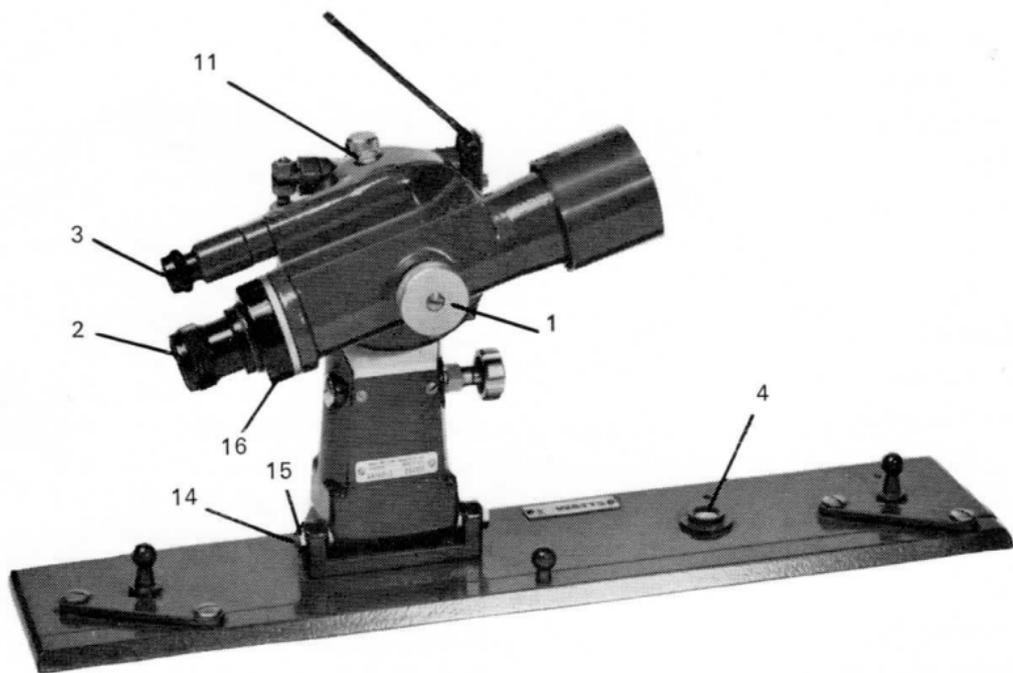
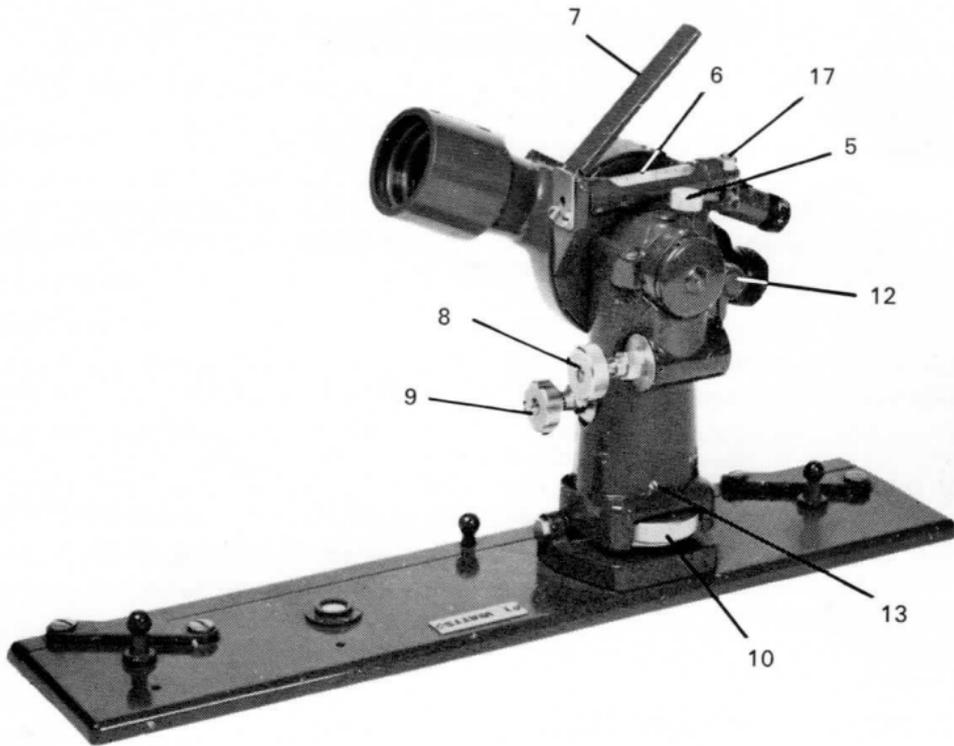
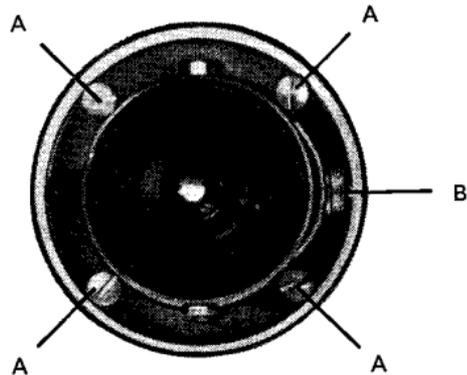

Figure 1 – THE ALIDADE
Figure 2 – THE ALIDADE
Figure 5 - GRATICULE ADJUSTMENTS
The various parts of the instrument are shown in Figures 1 and 2.
The other numbered items in Figures 1 and 2 are adjustments which are described in section 3.
Sight in the required direction and centre the cross bubble, using the pillar adjusting screw (10 Figure 2). Focus carefully by turning knob 1 (Figure 1) until there is no parallax between the image and the graticule, i.e. the image must remain stationary relative to the graticule when the head is moved from side to side. Clamp the telescope (5 Figure 2) and use the tangent screw (8 Figure 2) to bring the image of the object sighted on the intersection of the crosslines.
If vertical circle readings are required, first use the altitude bubble tangent screw (9 Figure 2) to centre the altitude bubble.
The angle scale is also marked for use when the telescope is reversed for backward sights, although in this condition it may be necessary to reflect light into the window (11 Figure 1) with a piece of white card to illuminate the scale.
Wear on the pillar adjusting screw threads can be taken up by adjustment of screw 13 Figure 2.
The pillar pivots on the two screws 14 Figure 1. If there is any shake in the pivots, loosen locknut 15 Figure 1 and adjust the screw; do not over-tighten. When the adjustment is satisfactory, tighten the locknut.
Unscrew the cover ring 16 Figure 1 to reveal the adjusting screws shown in Figure 5. Loosen the four clamping screws A and then turn the
- (7) If the two readings are the same, there is no collimation error. If, however, the readings differ, there is an error equal to a quarter of the difference. Adjust as follows.
- (8) Unscrew the cover ring 16 Figure 1 to reveal the adjusting screws shown in Figure 5. Adjust screw B to displace the graticule towards the first reading on the staff by an amount equivalent to a quarter of the difference between the two staff readings.
- (9) Recheck and repeat the adjustment if necessary until the two readings are the same.